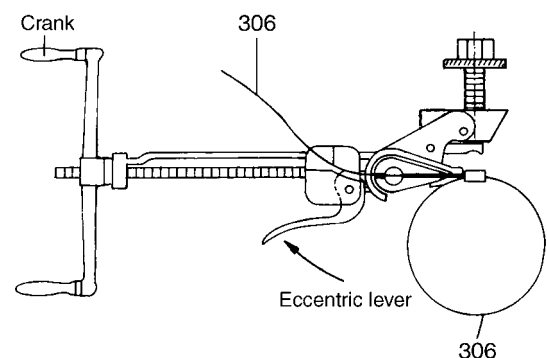

Figure 13: Tighten the joint clamp with the clamping tool Band-It and adapter J050
- Insert the band end of the joint clamp (306) into the clamping tool with adapter up to the joint clamp lock.
- Hold down the clamp end with the eccentric lever of the clamping tool and tighten the joint clamp (306) by turning the crank (figure 13).